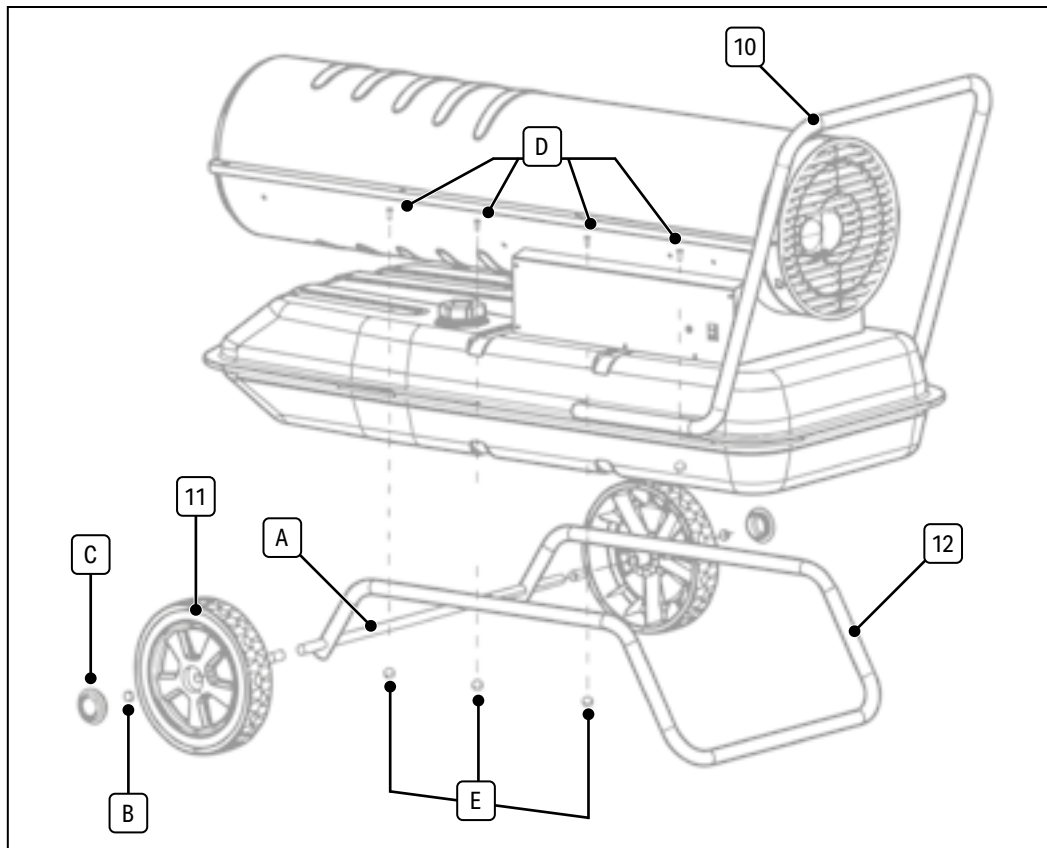

Fig. 1
6.1 Fitting Wheels & Transport Handle (Fig.1)